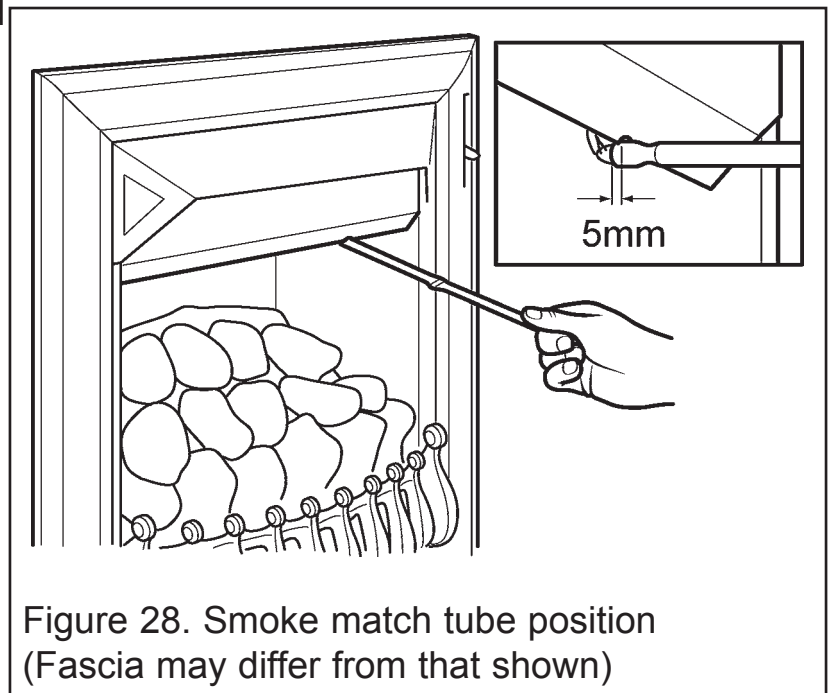

Figure 28. Smoke match tube position
4. The smoke match should be placed horizontally into the convection box at the right hand side. There is a notch in the black cross member. Insert the tube so that the neck of its flared end is 5mm passed and in contact the cross member (See figure 28).